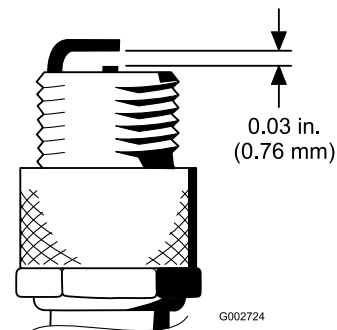

Figure 28
4. Set the air gap between the center and side of the electrodes at 0.030 in. (0.76 mm) (Figure 28). Install the correctly gapped spark plug with gasket seal, and tighten the plug to 200 in-lb (23 N·m). If a torque wrench is not used, tighten the plug firmly.